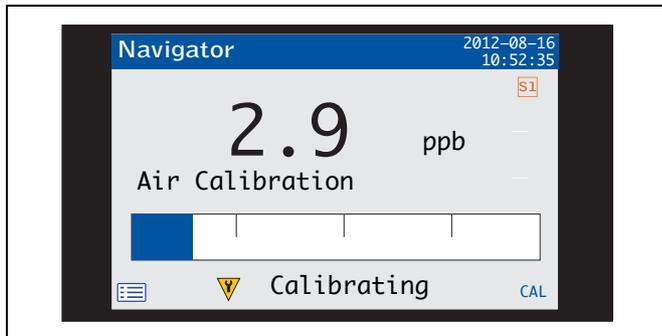

Fig. 5.1 Calibration view (with calibration valve fitted)
5. To exit the *Calibration* page, press the  key (below the *OK* prompt). Calibration continues and calibration progress can be monitored from the *Calibration View* – see Fig. 5.1, page 27.
During a calibration, the progress can be monitored from the *Calibration View* – see Fig. 5.1.